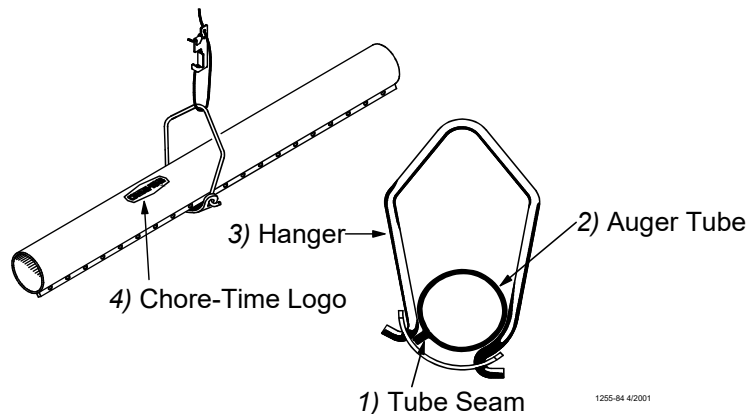

Figure 39. Hanger Installation
3. To achieve total feed drop out all along the system, the Chore-Time Logo should be centered at the crown of the tubes and all the Hangers should be installed as shown in Figure 39.
5. Install the Hangers on the feed line tube at the 8' [2.4 m] spacings determined by the suspension drop lines. **Figures 39 and 42** show the proper installation of the Hanger Assembly. Make sure the outlet drop hole is downward when the Hangers are installed, otherwise feed will not be allowed to drop into the feeder pan.